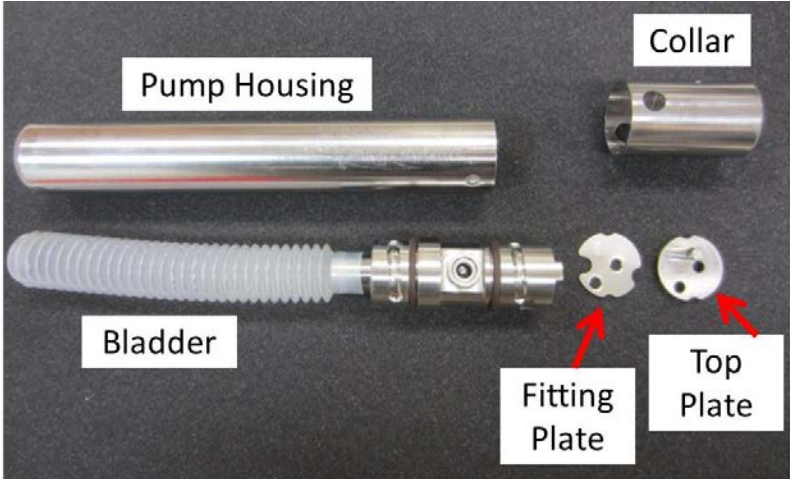

Figure 13. Components of the sampling pump
- b. Change bladder (if needed) – The pump uses a bladder to hold water drawn in from the well and compressed air that surrounds the bladder to discharge the water from the pump and out of the discharge lines to the surface. Periodically this bladder will need to be replaced as it will develop holes from use or will be contaminated with sediment. To do so, open the lower portion of the pump to expose the bladder and then cut the old bladder off and reinstall a new one by sliding the new bladder over the bottom port on the top of the pump. Figure 13 shows the components of the pump including the bladder.